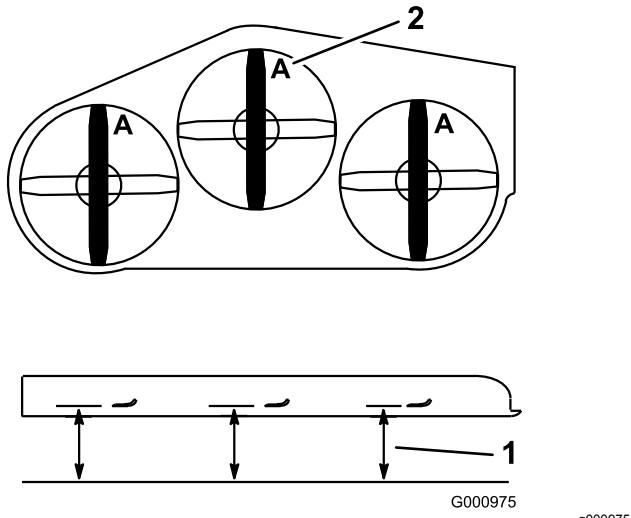

Figure 104
3. Rotate the blades until the ends face forward and backward (Figure 104).
4. Measure from a level surface to the cutting edge, position A, of the blades (Figure 104).